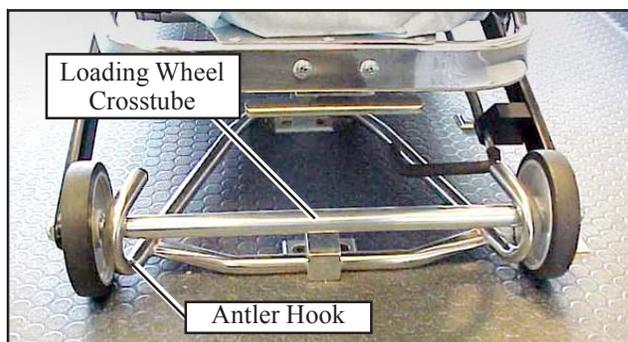

Figure 5 - Cot Head End in Antler
3. Guide the head end of the cot into the antler until the loading wheel crosstube on the cot rests firmly against the antler hooks (Figure 5).